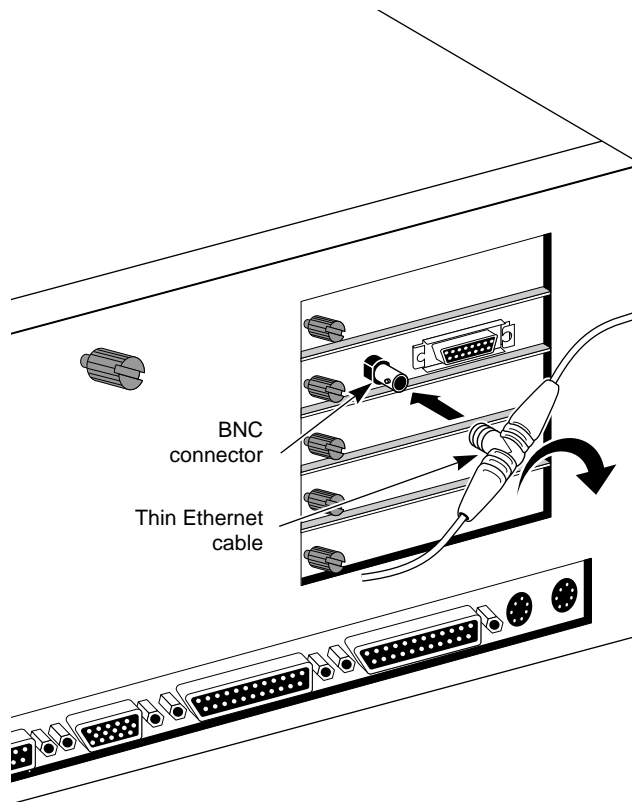

Figure 4-2. Connecting Thin Ethernet Cable
3. **Connect the T connector to the adapter's BNC connector (see Figure 4-2).**